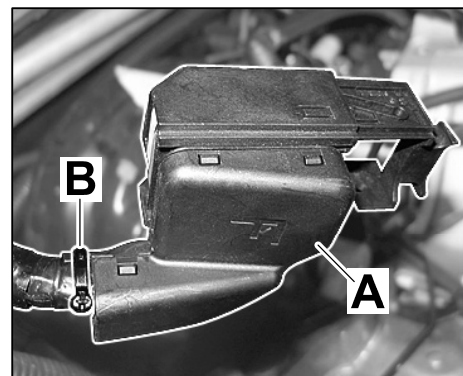

Figure 28
- 4.6 Fit cover $\Rightarrow$ Figure 28 **-A-** and secure with a tie-wrap $\Rightarrow$ Figure 28 **-B-**.